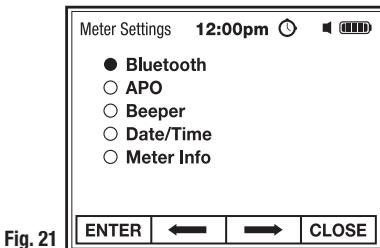

Fig. 21
2. Use the soft keys to select and ENTER desired setting (Fig. 21).
1. From Meter Settings, select and ENTER Bluetooth (Fig. 21).
1. From Meter Settings, select and ENTER APO (Fig. 21).
1. From Meter Settings, select and ENTER Beeper (Fig. 21).
- From Meter Settings, select and ENTER Date/Time (Fig. 21).
From Meter Settings, select and ENTER Meter Info (Fig. 21).